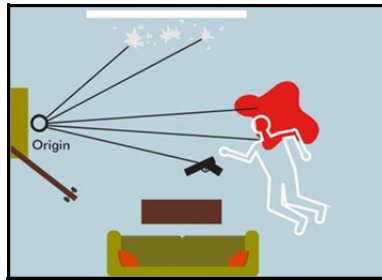

Figure 13
- All three data collection methods also work for indoor crime scenes. The results will be the same except on a smaller scale. Figure 13 shows an example of an indoor crime scene, measured using the Radial with Angle method. The investigator was positioned in a doorway and took shots to the broken window glass, the body, the gun, and the pool of blood.